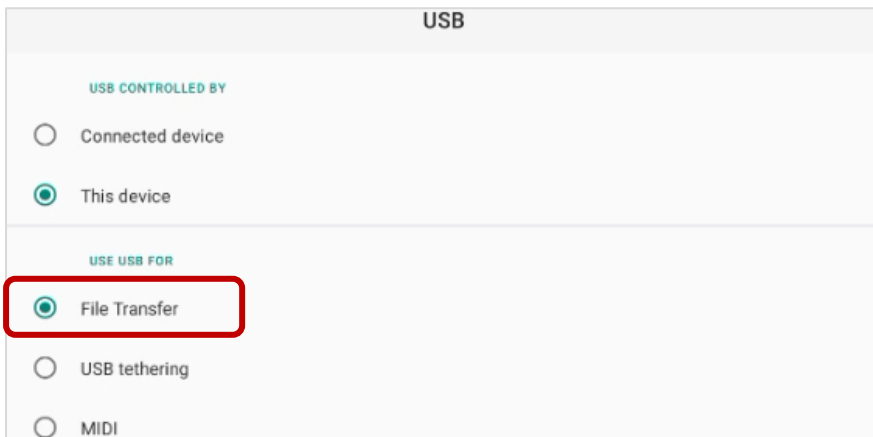

Figure 57
- Select **File Transfer** (Figure 57) and leave the **USB settings** menu.